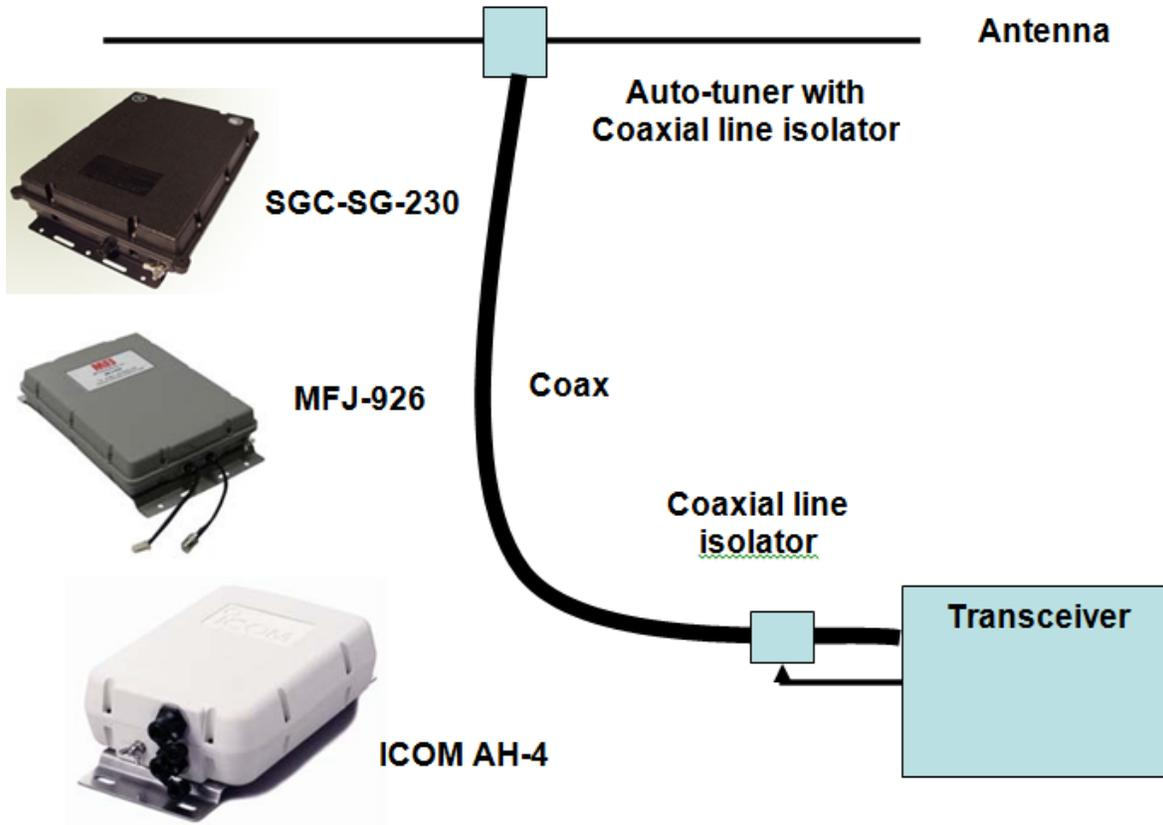
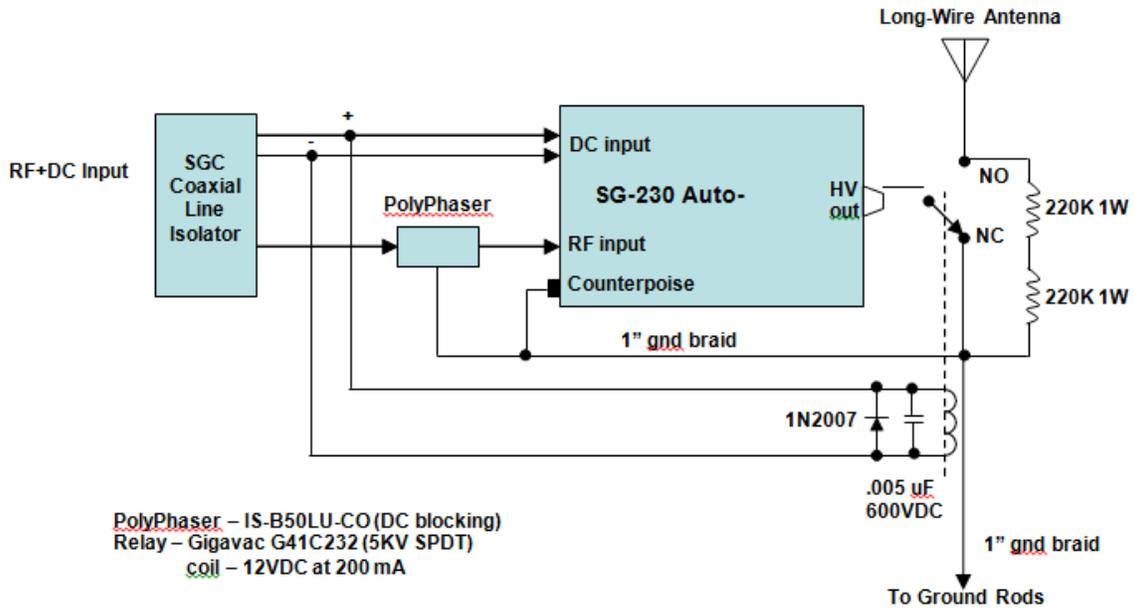

Figure 31: Tuner At The Antenna
Figure 32: SGC Auto-Tuner Lightning Protection Circuitry
- D. Tuner At The Antenna** – The method favored by the military and marine antenna designers is to place an auto-tuner at the antenna as shown in Figure 31. These tuners can typically tune an antenna as short as 8 ft. from 3.5 MHz to 30 MHz. They require about 1 ampere at 13.5 VDC to provide power to the microcomputer located within the housing. The SGC and MFJ antenna tuners need only this DC power and about 10 watts of RF to allow the auto-tuner to match the antenna to the 50 Ω coaxial cable. DC can be transmitted up the coaxial cable and separated at the top and bottom using Bias-Tee's, available from both companies. The ICOM AH4 has both a coaxial cable and a 4 wire control cable and is designed to only operate with compatible ICOM HF transceivers (Ham and Marine). The three auto-tuners shown are water-tight but their plastic housing must be protected from the Texas sun. In addition, the sensitive electronics must be protected from EMP (Electromagnetic Pulse) damage from nearby lightning strikes. I am presently using a high-voltage relay, energized from the microcomputer DC line, to disconnect and short the tuner to ground when not in use. A schematic of this protective circuit can be seen in Figure 32. Additional external auto-tuner examples and construction